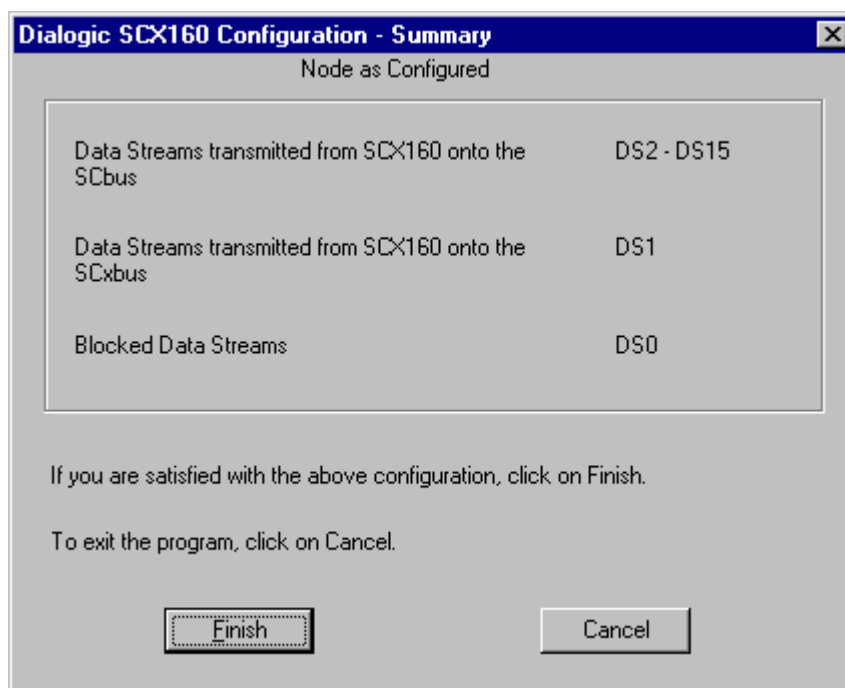

Figure 37. Summary Window (Blocked Configuration)
23. The configuration values listed in *Figure 37. Summary Window (Blocked Configuration)* are: